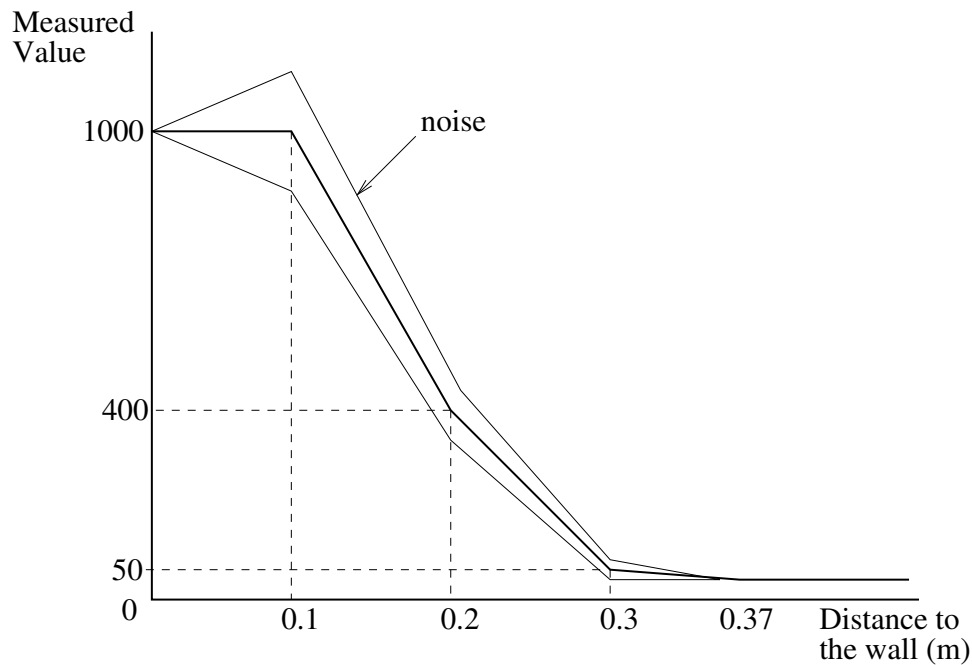

Figure 3.11: Sensor response versus obstacle distance
The above lookup table means that for a distance of 0 meters, the sensor will return a value of 1000 without noise (0); for a distance of 0.1 meter, the sensor will return 1000 with a noise of standard deviation of 10 percent (100); for a distance value of 0.2 meters, the sensor will return 400 with a standard deviation of 10 percent (40), etc. Distance values not directly specified in the lookup table will be linearly interpolated. This can be better understood in figure 3.11 below.